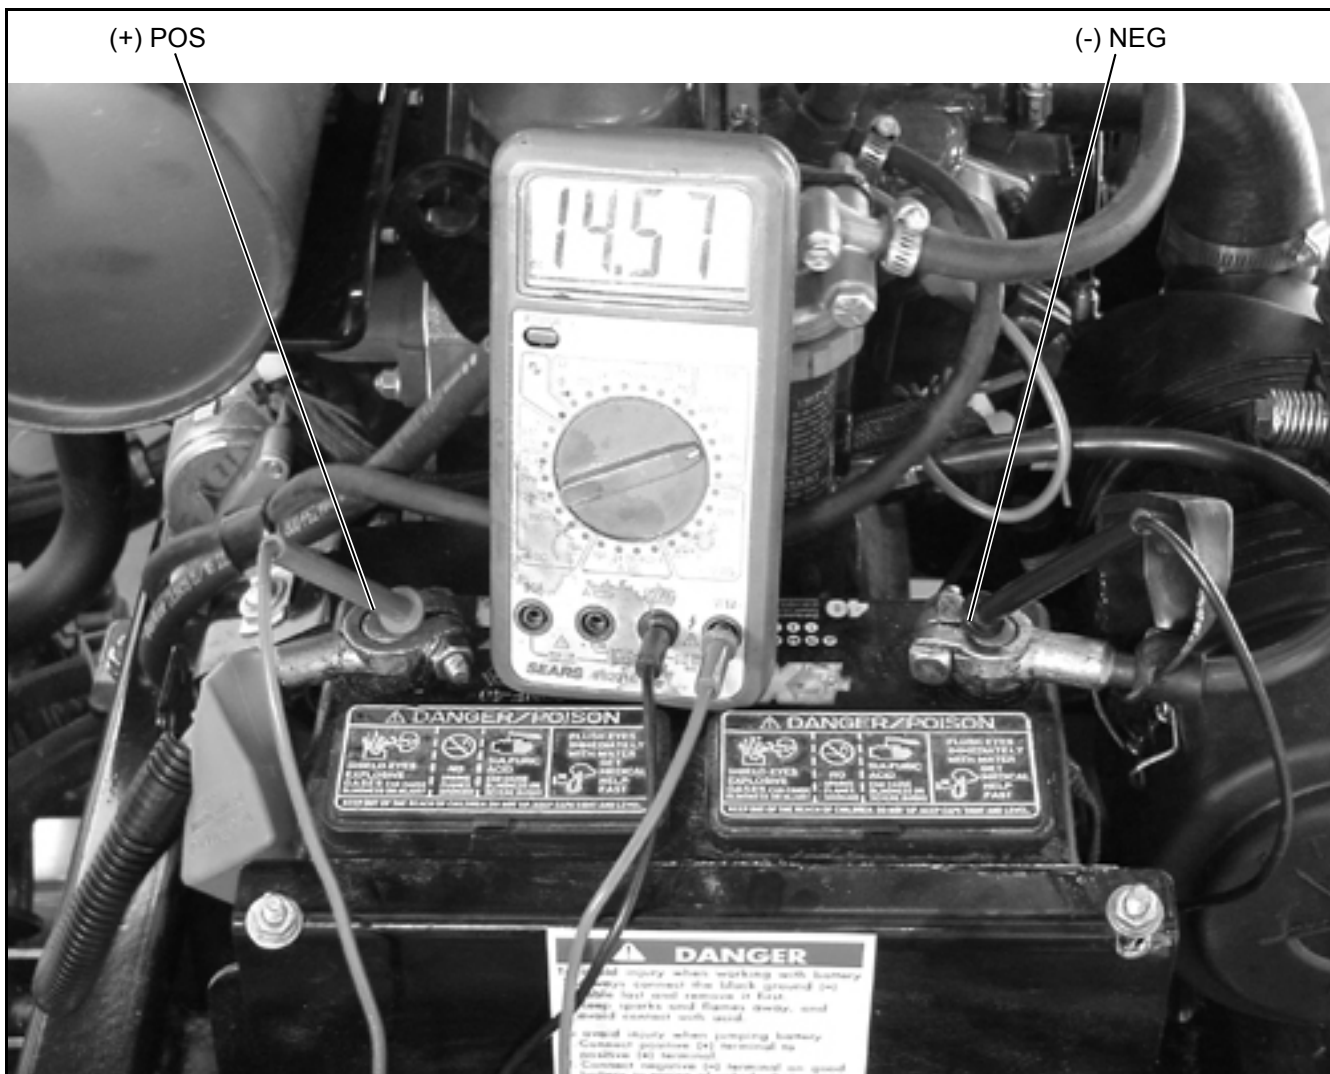

Figure 10E-1. Output Voltage Test
2. Place the red (+ POS) lead on the positive terminal, and the black (- NEG) lead on the negative terminal (Figure 10E-1).